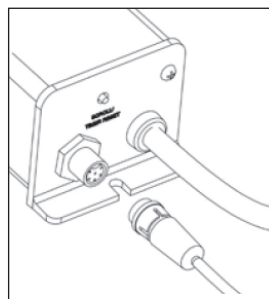
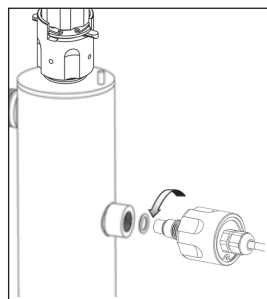

Figure 4B
Figure 4C
1. Before removing the sensor assembly, follow the steps as outlined in the “Quartz Sleeve Replacement And/Or Cleaning” section. The quartz sleeve should be cleaned at the same time as the UV sensor. Disconnect the UV sensor from the controller by disconnecting the sensor cable, turning the collar counter-clockwise (Figure 4B). To remove the sensor, grasp the body of the sensor and rotate counter-clockwise (Figure 4C) until the sensor is free of the threaded sensor port.
3. Ensure sensor lens is rinsed free of cleaning solution. Carefully re-assemble the sensor assembly with o-ring (Figure 4E) into the sensor boss. Screw the sensor into the boss and tighten to achieve a water-tight seal. DO NOT OVERTIGHTEN. Attach the sensor cable to the controller and return to service (Figure 4B).